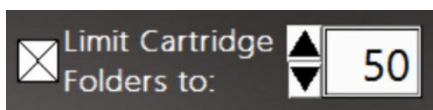

Figure 33: Limit Cartridge Data Folders controls
**Note:** The raw data (.bin) files are each approximately 1.25 GB. When the **Limit Cartridge Folders** to checkbox is selected (Figure 33), the software retains only the newest *N* folders (where *N* is the number typed in the field next to **Limit Cartridge Folders to**). All older cartridge data folders are deleted.